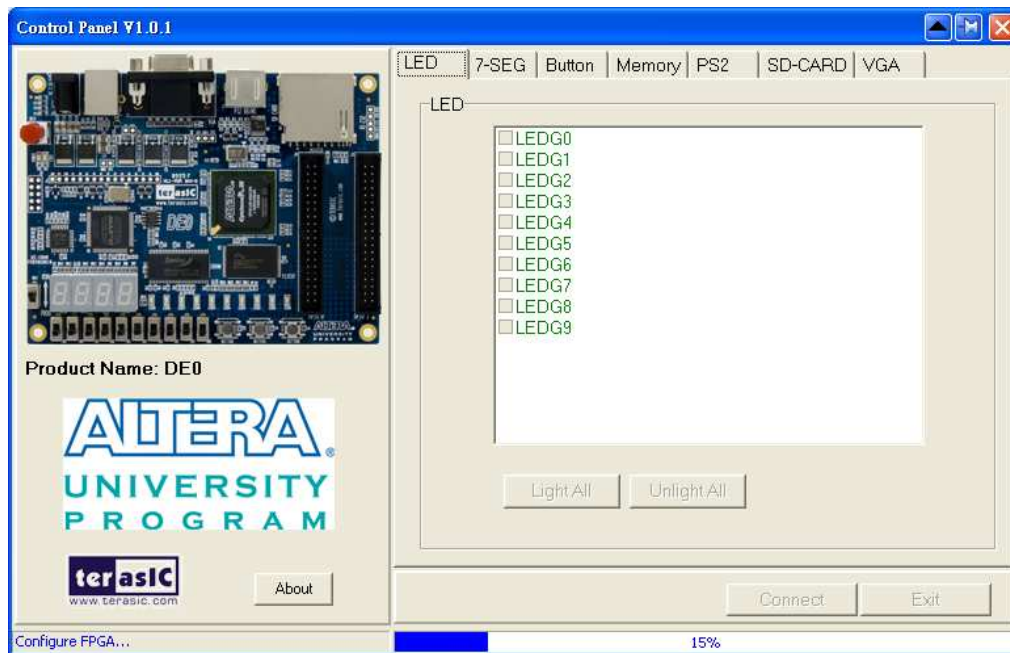

Figure 3.1. The DE0 Control Panel.
4. Start the executable *DE0_ControlPanel.exe* on the host computer. The Control Panel user interface shown in Figure 3.1 will appear.